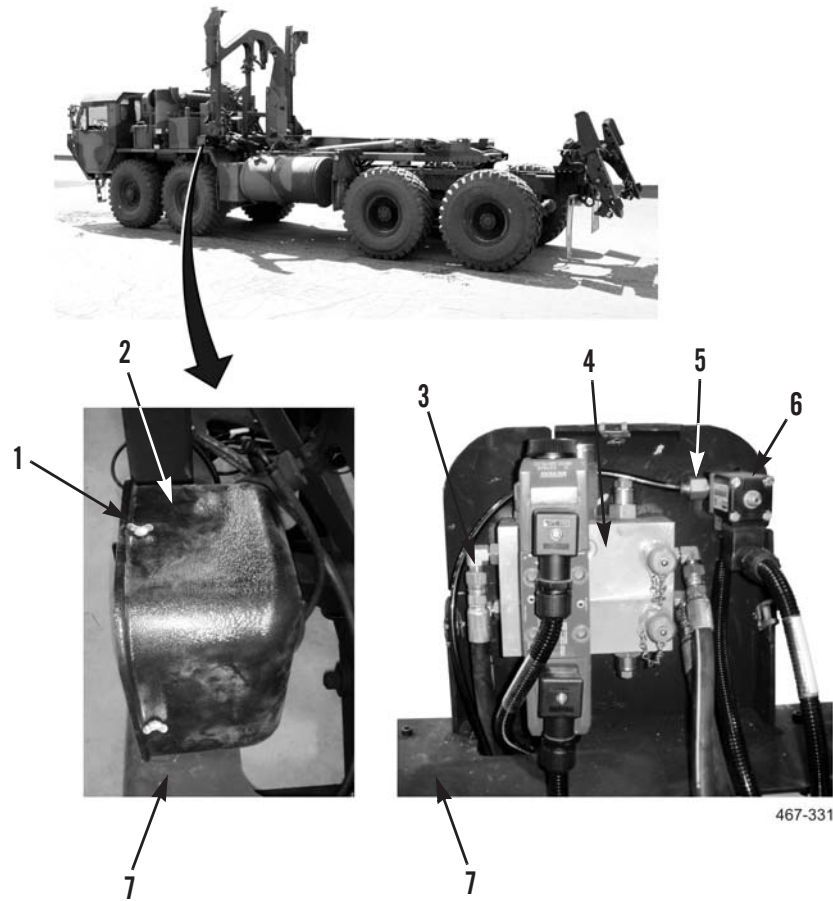

Figure 5. Disconnect Hydraulic and Pneumatic Lines.
1. Loosen three locking pins (Figure 5, Item 1), and remove manifold cover (Figure 5, Item 2) from stowage assembly (Figure 5, Item 7).
2. Disconnect two hydraulic hoses (Figure 5, Item 3) from manifold (Figure 5, Item 4) and route to under stowage assembly (Figure 5, Item 7).
3. Disconnect pneumatic line (Figure 5, Item 5) from solenoid valve (Figure 5, Item 6) and route to under stowage assembly (Figure 5, Item 7).